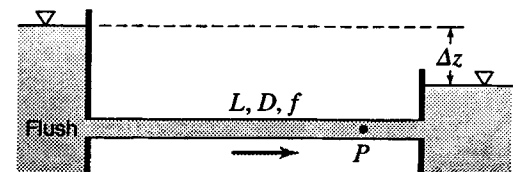

Figure P8.60
8.60 A 12-in-diameter pipe ($f = 0.028$) 450 ft long runs from one reservoir to another, both ends of the pipe being under water (Fig. P8.60). The intake is square-edged. The difference between the water surface levels of the two reservoirs is 150 ft. Find (a) the flow rate, and (b) the pressure in the pipe at a point 320 ft from the intake, where the elevation is 135 ft lower than the surface of the water in the upper reservoir.